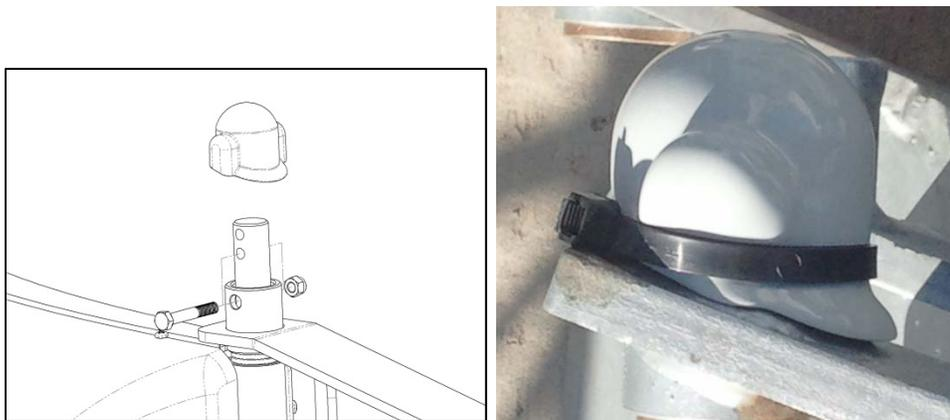

Figure 10: Tail Pivot Pin Cap
- 15. Place the tail pivot pin cap on the pivot pin and use a zip tie to secure it in place, as shown in Figure 10.